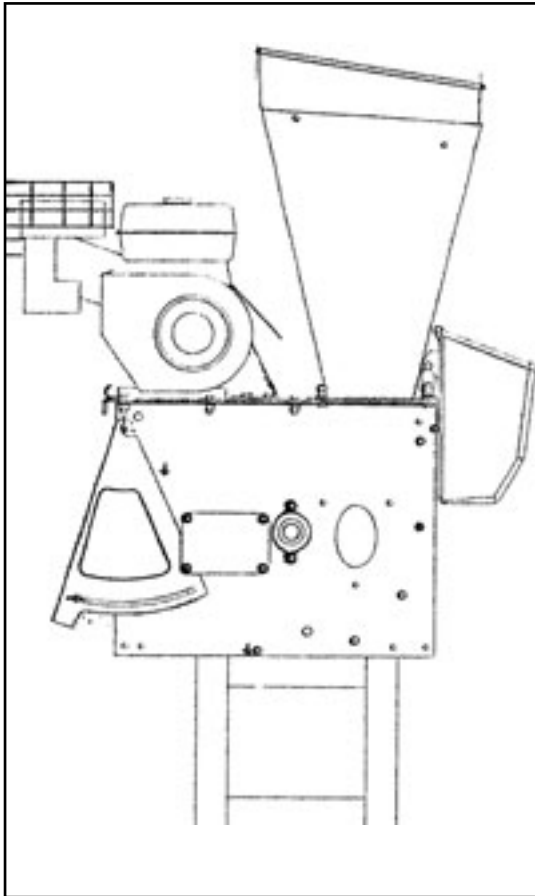

Fig 1
- Remove the machine from the crate and place on a sturdy support as shown in Fig 1.